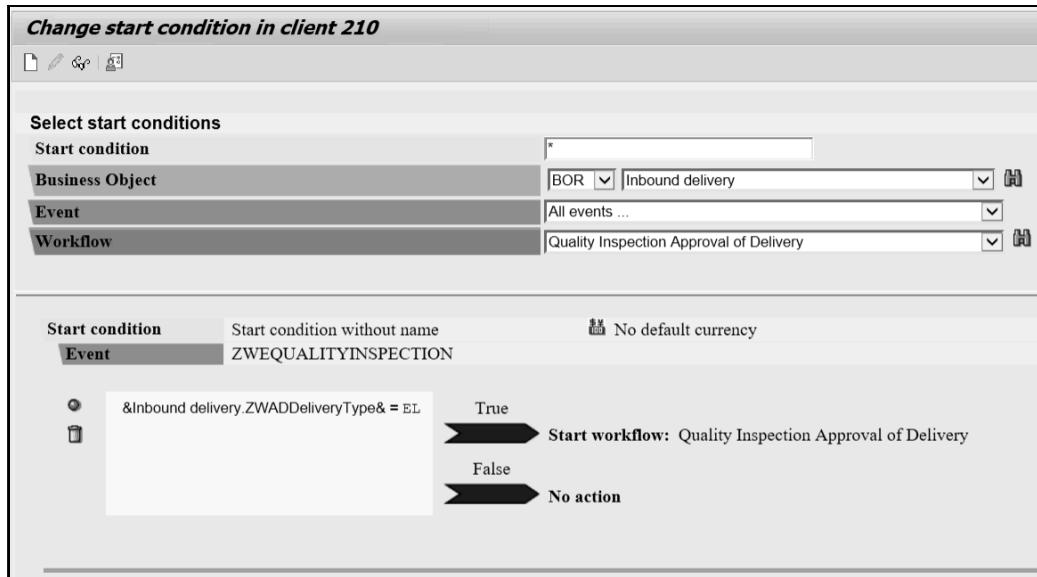

Figure 5.34 Activate the Start Condition (Indicated by the Green Icon to the Left)
6. In Figure 5.34, activate the condition by clicking on the red-light icon until it turns green. Save the condition and capture it in a Customizing transport for moving to other systems/clients.